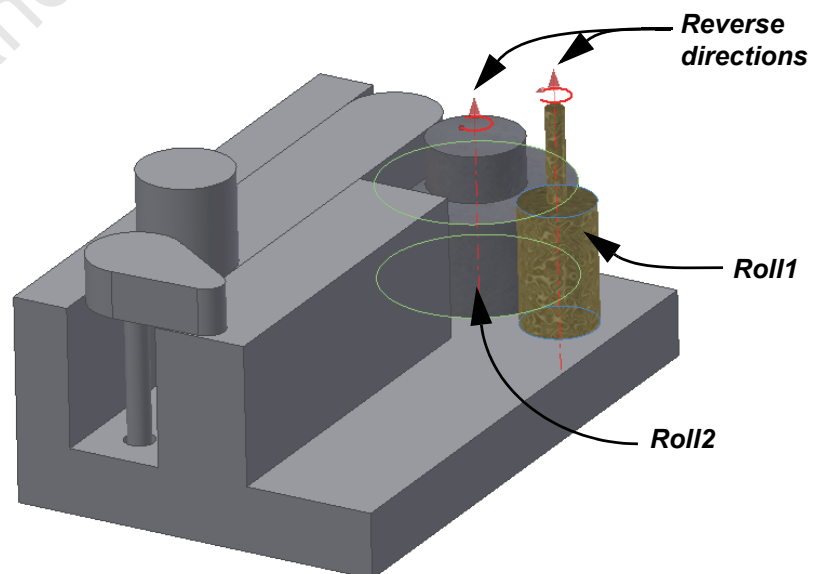

Figure 1-19
6. Set the parts to rotate in the reverse direction, as shown in Figure 1-19, by clicking . Click **OK**.